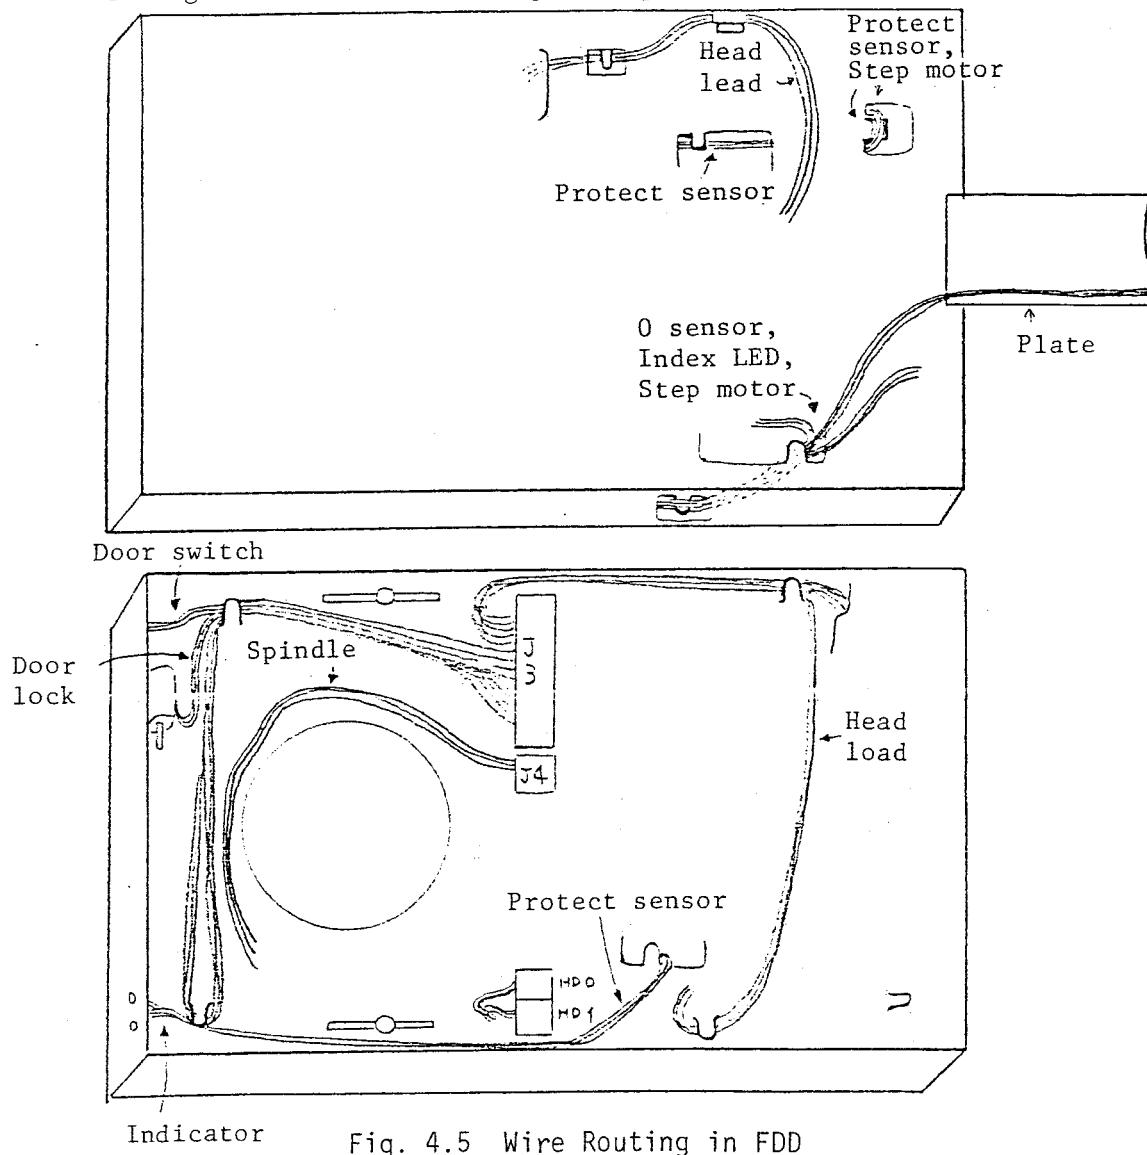
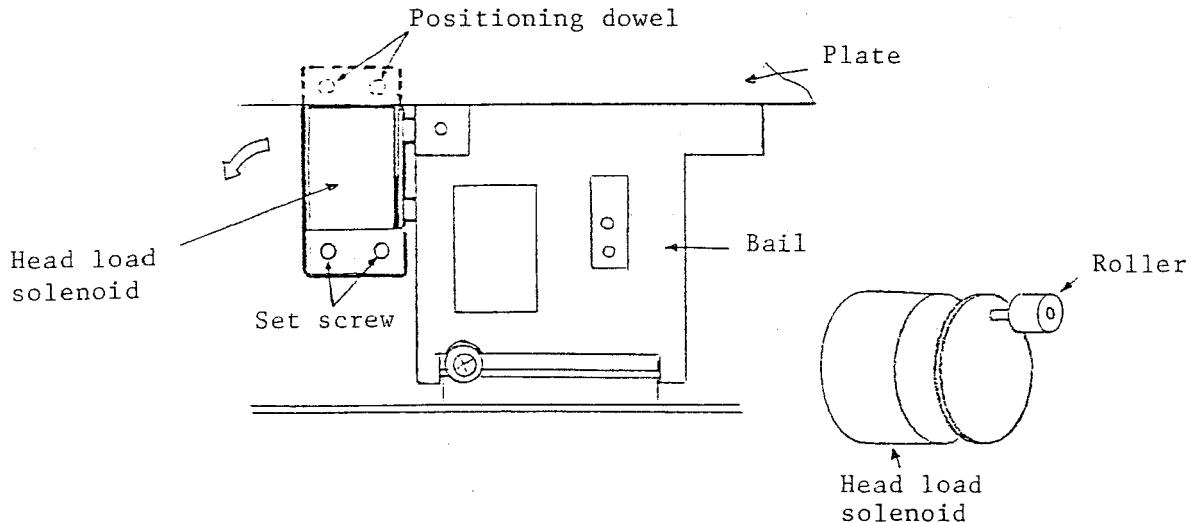

Fig. 4.5 Wire Routing in FDD
Fig. 4.8 Head Load Solenoid
After replacement, perform wiring with each clammer used for fixing on the base according to Fig. 4.5.
- Remove head load solenoid set screws ($M4 \times 2$). While holding the bail steady by hand, pull out the solenoid in the arrowed direction (Fig. 4.8). Use care to keep the roller in place.
(3) Assembling
- Install wiring according to 4.2.3 (wire routing shown in Fig. 4.5).
- (b) Install wiring according to 4.2.3 (wire routing shown in Fig. 4.5).
(4) Adjustment
(2) Disassembling
- Install wiring according to 4.2.3 (wire routing shown in Fig. 4.5.)